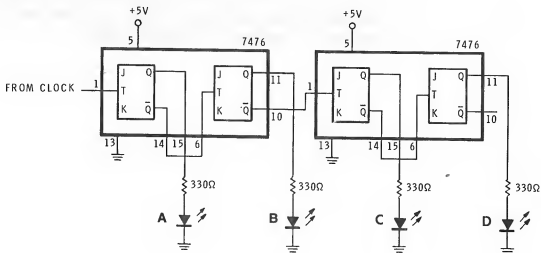

Figure 5-59
- Turn off the Experimenter and modify the counter to conform to the circuit in Figure 5-59. Be careful in making your wiring changes to avoid errors.